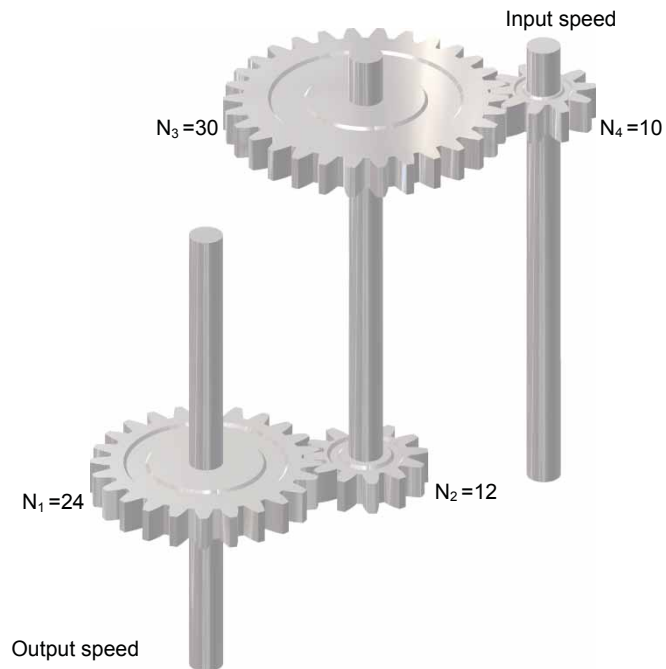

Figure 2-34. Two stages of reduction.
2. What is the total gear ratio in the two-stage arrangement of Figure 2-34?